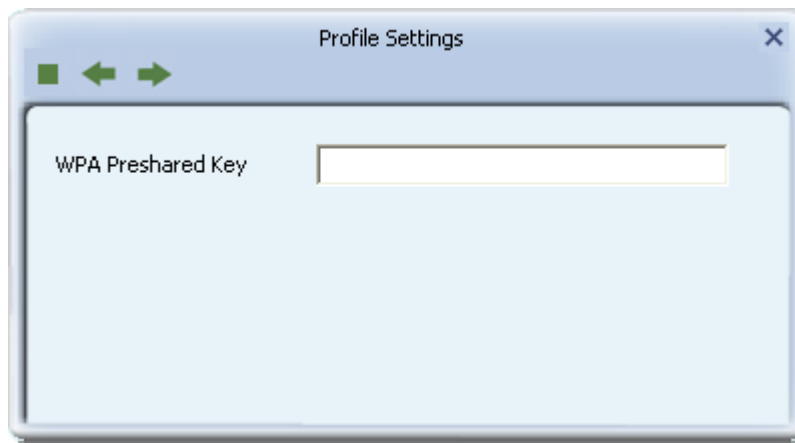

Figure 1-10: WPA Preshared Key
Step 4: Click  to continue, as shown in **Figure 1-10**.